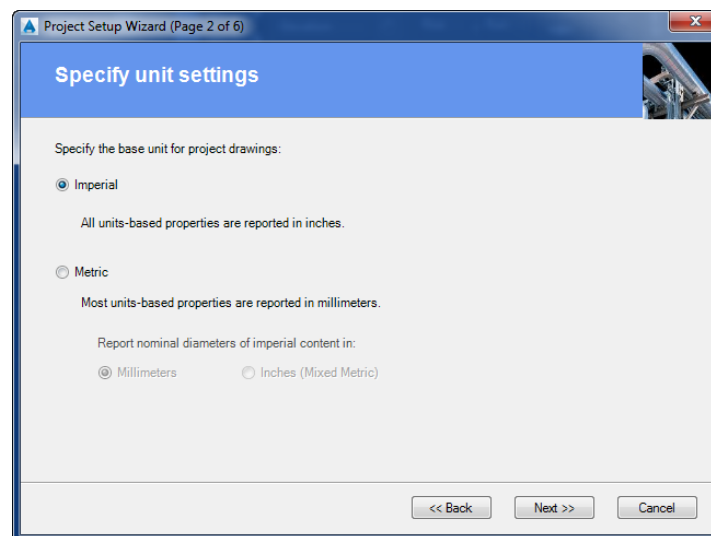

Figure 2-3 The Specify unit settings page
3. Clear the **Copy settings from existing project** check box, if selected, and then choose the **Next** button; the **Specify unit settings** page will be displayed, as shown in Figure 2-3.